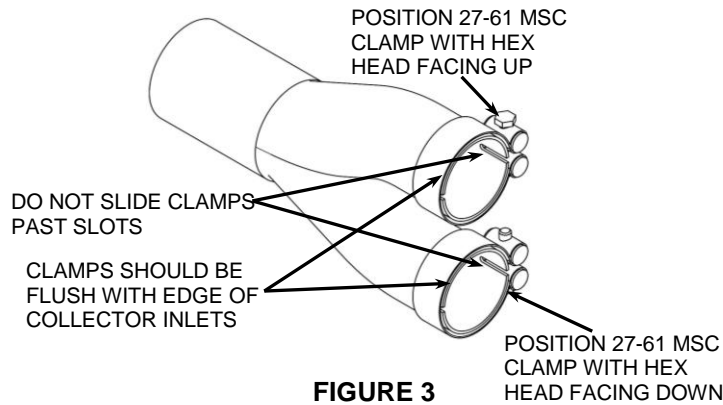

FIGURE 3
14. Position the supplied #27-61 MSC clamps with hex head facing the direction shown in **FIGURE 3** and slide them onto the collector inlets.
19. Make sure the muffler assembly, collector, front headpipe, and rear headpipe are aligned properly and tighten in the following order; headpipe flanges to the cylinders (slowly tightening opposing nuts), front headpipe/collector clamp, rear headpipe/collector clamp, muffler clamp, and finally the muffler to the exhaust mount. (NOTE: The muffler clamp and headpipe clamps should be flush with the end of the inlets when tightened. See **FIGURE 3 & 4**. If the clamps are slid past the slots on the inlets the clamps will not tighten properly).